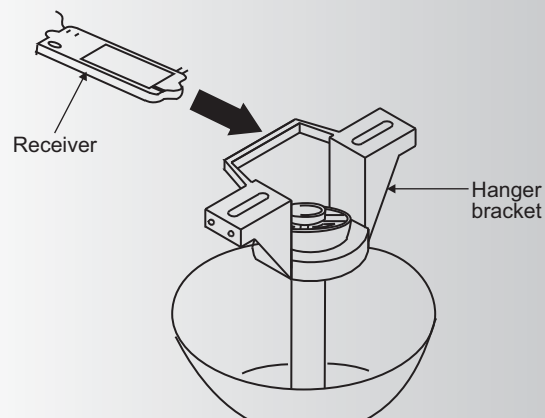

Fig. 13
**Step 1.** Insert the receiver in the ceiling mounting bracket with the flat side of the receiver facing the ceiling. (Fig. 13) For best performance, make sure the Black Antenna, on the end of the receiver, remains extended and not tangled with any of the electrical wires.